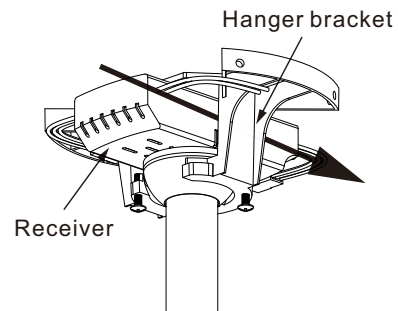

Figure 16
**Step 1.** (Fig. 16) Insert the receiver into the hanger bracket with the flat side of the receiver facing the ceiling.